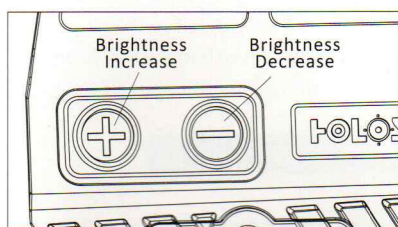

Fig 7
1. **To Power ON (see Fig7)** : Press and release either brightness button ("+" or "-") to turn on the sight.